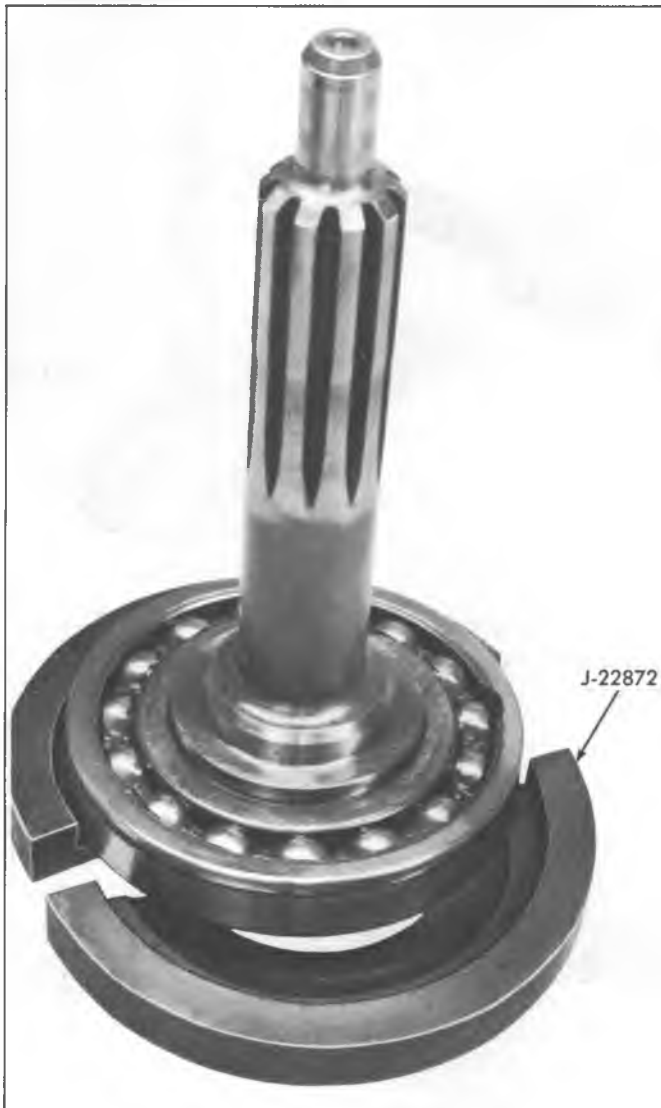

Fig. 9Q--Positioning Tool J-22872 to Clutch Gear
1. Remove mainshaft pilot bearing rollers (17) from clutch gear if not already removed, and remove roller retainer. Do not remove snap ring on inside of clutch gear.
3. To remove bearing, position Tool J-22872 to the bearing (fig. 9Q) and using an arbor press and Tool J-0358 press gear and shaft out of bearing (fig. 10Q).